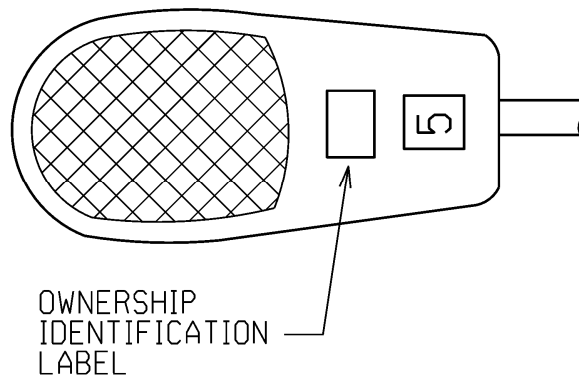

Figure 2 – Installation of Ownership Identification Label
1. Ownership identification label shall be installed on the lower door of a horizontal roadway luminaire such that it is clearly visible from the ground. See Figure 2.